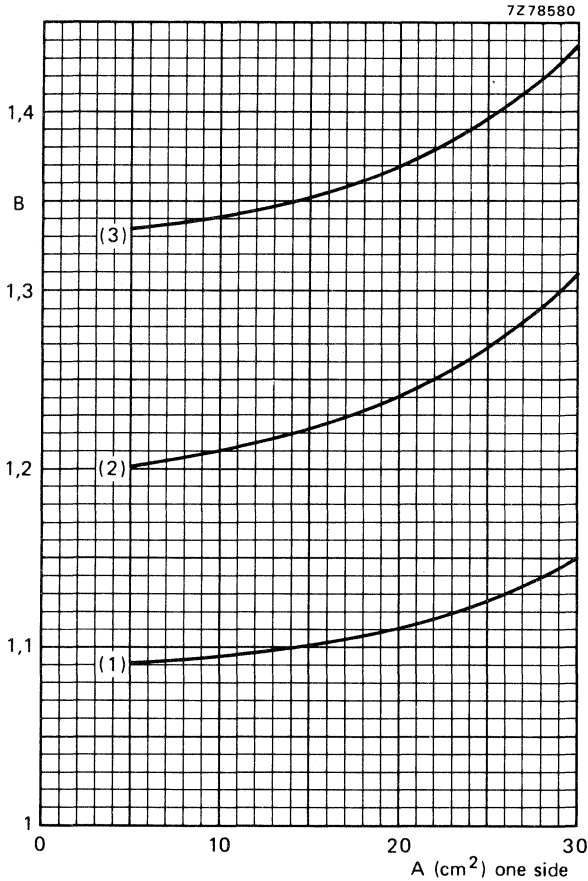
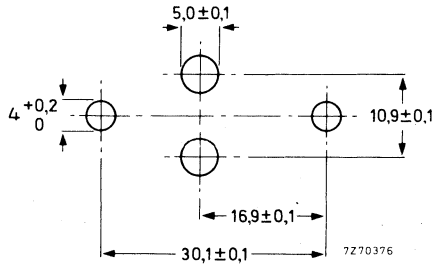

Fig. 1 Multiplication factor (B) as a function of heatsink area (A).
Fig. 3 Hole pattern for direct mounting with nuts.
- Multiply by the factor given in Fig. 1 as a function of the heatsink size A .
The transistors should be mounted with M4 screws, see Figs 1 and 2. Minimum heatsink thickness (for good heat transfer) 1,5 mm. Hole pattern: Fig. 3.
Figs 1 and 2. Direct mounting with nuts.